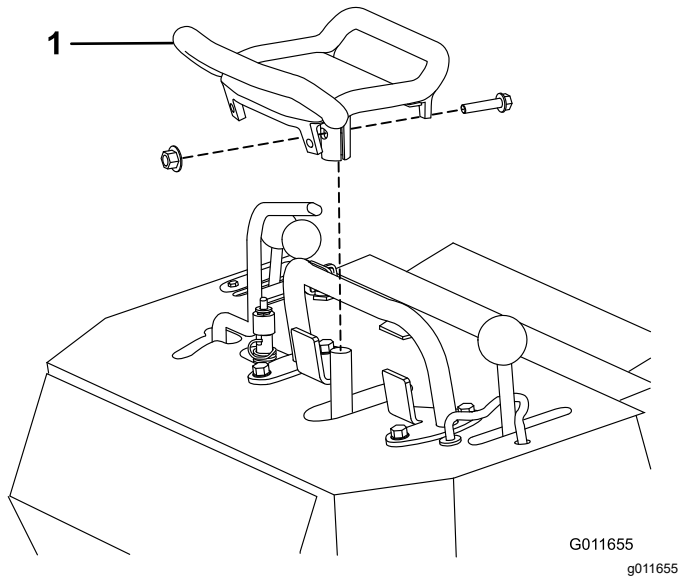

Figure 3
2. Remove the traction-control handle (Figure 3).